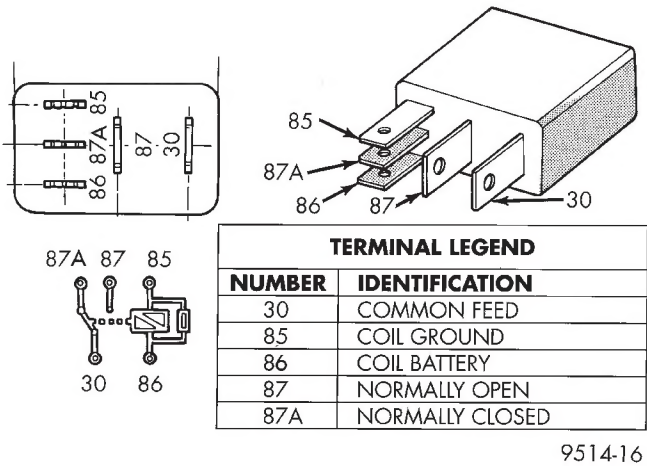
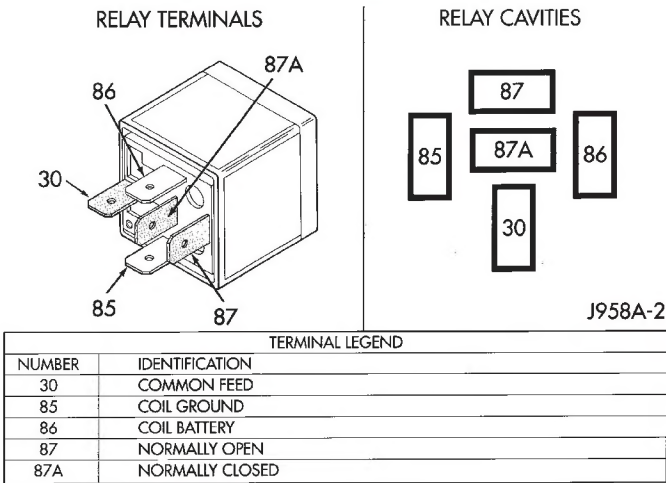

Fig. 1 Horn Relay Connections-XJ
Fig. 2 Horn Relay Connections-YJ
(1) Inspect fuses (F8 and F16 in PDC on YJ)(11 in fuseblock module and F14 in PDC on XJ). Replace fuses, as required.
(2) Remove the horn relay (in the PDC on YJ)(in the relay center on XJ). See Horn Relay Connections-XJ (Fig. 1) or Horn Relay Connections-YJ (Fig. 2) and perform the following tests.
- The common feed terminal (30) is connected to battery voltage and should be hot at all times. If battery voltage is not present at relay cavity 30, check circuit to fuse (F16 on YJ)(11 on XJ). Repair as required.
- The normally open terminal (87) is connected to the common feed terminal (30) in the energized position. This terminal supplies battery voltage to the horn. There should be continuity between relay cavity 87 and the horn terminal at all times. If not, repair wiring or connections as required.
- The coil battery terminal (86) is connected to the electromagnet in the relay, and battery voltage should be present at all times. If battery voltage is not present at relay cavity 86, check circuit to fuse (F16 on YJ)(11 on XJ). Repair as required.
- The coil ground terminal (85) is connected to the electromagnet in the relay. It is grounded when the horn switch is depressed. Check for continuity to ground at relay cavity 85 with the horn switch depressed. If no continuity is found with horn switch depressed or, if continuity is found with horn switch released, repair horn switch or wiring as required. See Horn Switch Remove/Install in this group for service procedures.